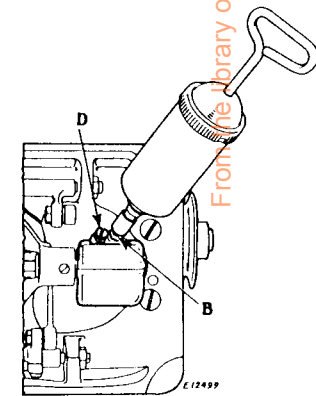

Fig. 5
To supply grease to the lower gear case (Fig. 5), lay the machine back on the table, remove the level hole screw (D, Fig. 5) and force the lubricant into the Alemite fitting (B, Fig. 5) until it emerges from the level hole at (D), then replace the screw (D).